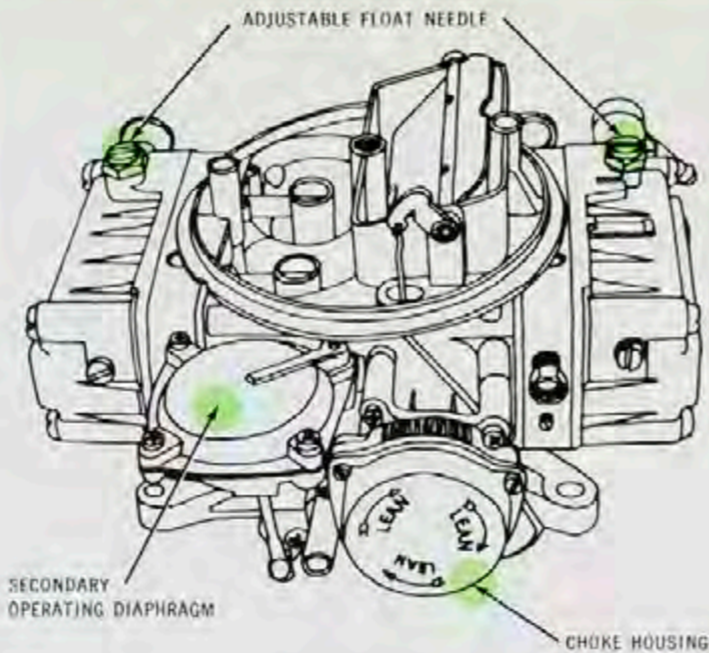

Figure 1
3. If it is necessary to adjust either or both bowls, loosen the inlet needle lock screw (Figure 1) and turn the adjusting nut clockwise to lower fuel level. A counter-clockwise turn will raise the fuel level. A $\frac{1}{8}$ turn of the adjusting nut equals approximately $\frac{1}{16}$ " fuel level change.